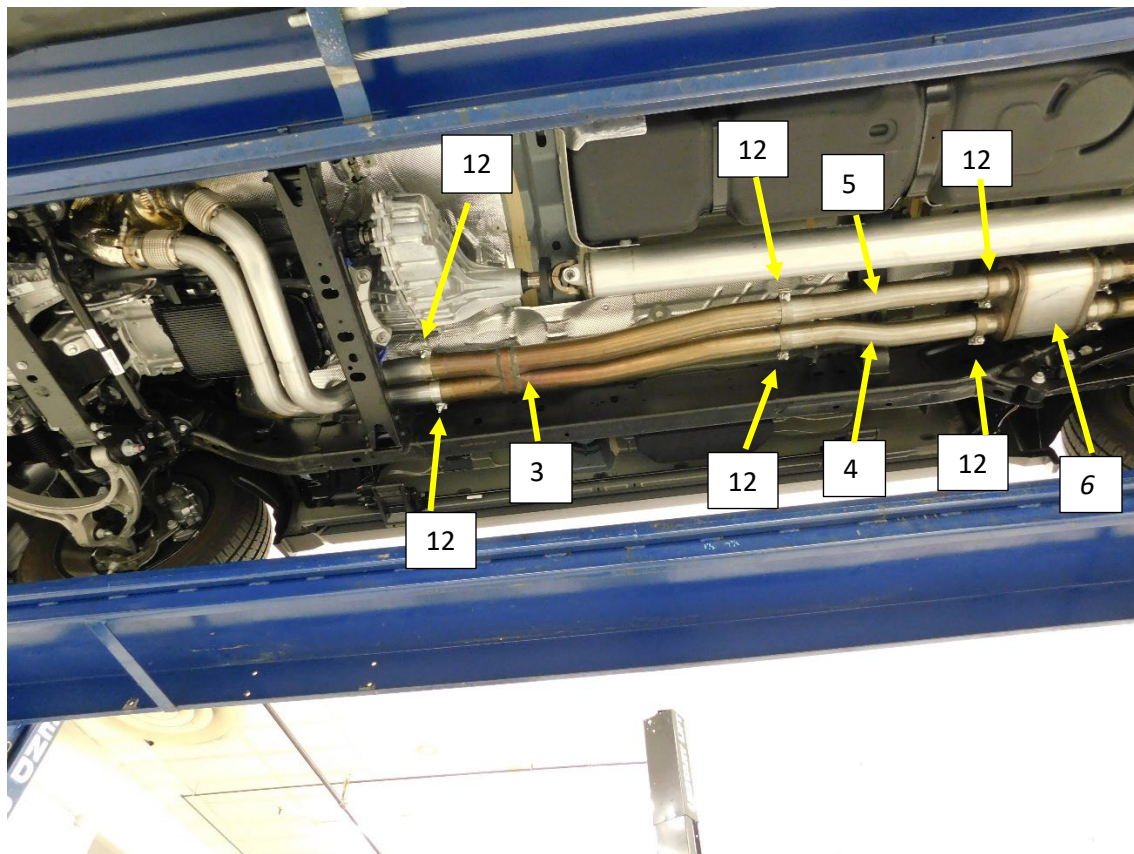

Figure.10
6. Install a 3" band clamp (12) on to each expanded and notched end of the Scavenger pipe (3) with the bolts to the outside of the pipe and nuts facing the ground. **Fig.10**
7. Install the scavenger pipe (3) (after trimming to length if necessary) on to the down pipes with the Flowmaster logo towards the ground. Support the assembly. Tighten the clamps to allow for adjustment. **Fig.10**
8. Install a 3" band clamp (12) on to the expanded and notched end of each of the Right (4) and Left (5) muffler inlet pipes. **Fig.10**
9. Install the right muffler inlet pipe (4) on to the Scavenger pipe (3) and install the hanger rod into the Isolator on the frame. Tighten the clamp to allow for adjustment. **Fig.10**
10. Install the left muffler Inlet pipe (5) on to the Scavenger pipe (3), tighten the clamp to allow for adjustment. **Fig.10**
11. Install a 3" band clamp (12) on to each muffler (6) inlet neck with the bolt facing away from the drive shaft and nut facing the ground. Install the muffler (6) on to the muffler inlet pipes. Tighten the clamps to allow for adjustment. **Fig.10**